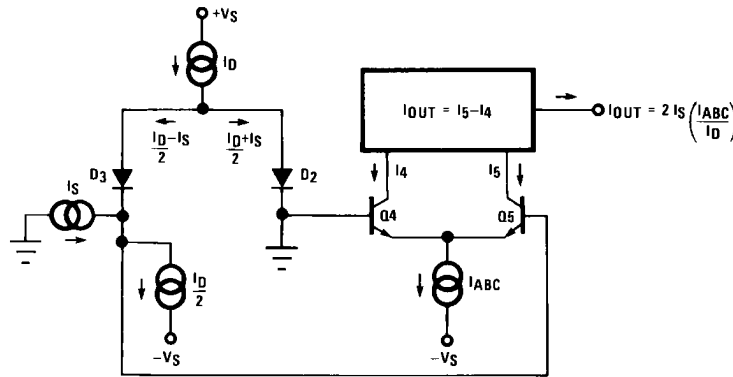
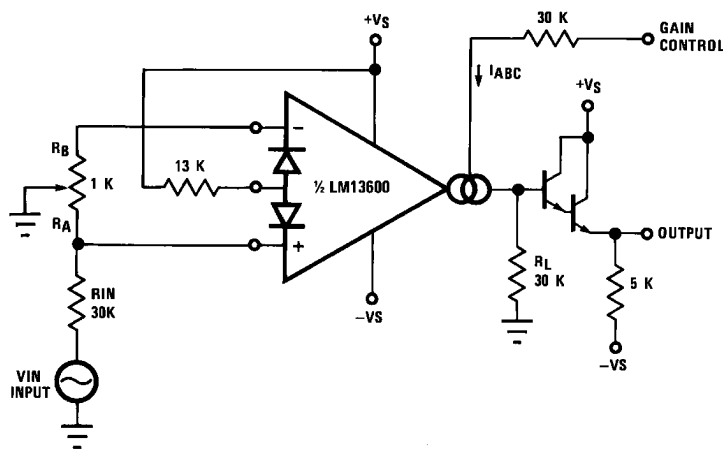
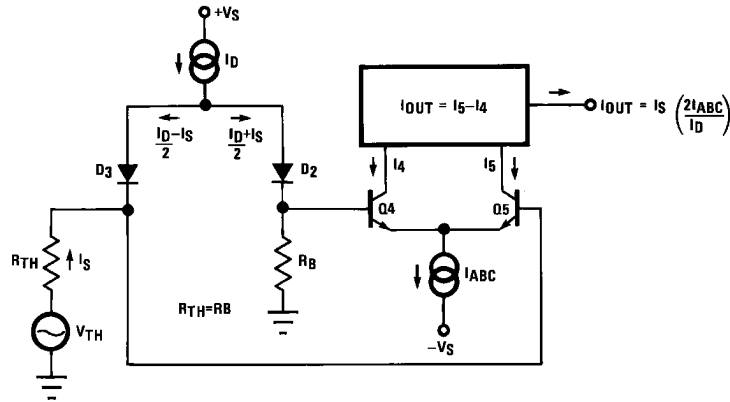
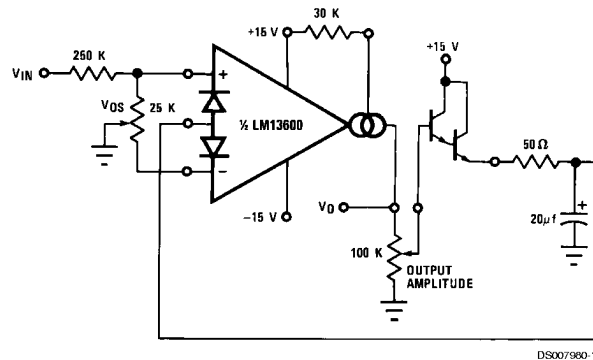

FIGURE 1. Linearizing Diodes
FIGURE 2. Voltage Controlled Amplifier
FIGURE 3. Equivalent VCA Input Circuit
FIGURE 7. AGC Amplifier
For differential voltages greater than a few millivolts, Equation (3) becomes less valid and the transconductance becomes increasingly nonlinear. Figure 1 demonstrates how the internal diodes can linearize the transfer function of the amplifier. For convenience assume the diodes are biased with current sources and the input signal is in the form of current I_S . Since the sum of I_4 and I_5 is I_{ABC} and the difference is I_{OUT} , currents I_4 and I_5 can be written as follows:
Figure 2 shows how the linearizing diodes can be used in a voltage-controlled amplifier. To understand the input biasing, it is best to consider the 13 k Ω resistor as a current source and use a Thevenin equivalent circuit as shown in Figure 3. This circuit is similar to Figure 1 and operates the same. The potentiometer in Figure 2 is adjusted to minimize the effects of the control signal at the output.
For optimum signal-to-noise performance, I_{ABC} should be as large as possible as shown by the Output Voltage vs. Amplifier Bias Current graph. Larger amplitudes of input signal also improve the S/N ratio. The linearizing diodes help here by allowing larger input signals for the same output distortion as shown by the Distortion vs. Differential Input Voltage graph. S/N may be optimized by adjusting the magnitude of the input signal via R_{IN} (Figure 2) until the output distortion is below some desired level. The output voltage swing can then be set at any level by selecting R_L .
The circuit of *Figure 4* uses the excellent matching of the two LM13600 amplifiers to provide a Stereo Volume Control with a typical channel-to-channel gain tracking of 0.3 dB. R_P is provided to minimize the output offset voltage and may be replaced with two 510Ω resistors in AC-coupled applications. For the component values given, amplifier gain is derived for *Figure 2* as being:
The constant term in the above equation may be cancelled by feeding $I_S \times I_D R_C / 2 (V^- + 1.4V)$ into I_O . The circuit of Figure 6 adds R_M to provide this current, resulting in a four-quadrant multiplier where R_C is trimmed such that $V_O = 0V$ for $V_{IN2} = 0V$. R_M also serves as the load resistor for I_O . Noting that the gain of the LM13600 amplifier of Figure 3 may be controlled by varying the linearizing diode current I_D as well as by varying I_{ABC} , Figure 7 shows an AGC Amplifier using this approach. As V_O reaches a high enough amplitude ($3 V_{BE}$) to turn on the Darlington transistors and the linearizing diodes, the increase in I_D reduces the amplifier gain so as to hold V_O at that level.